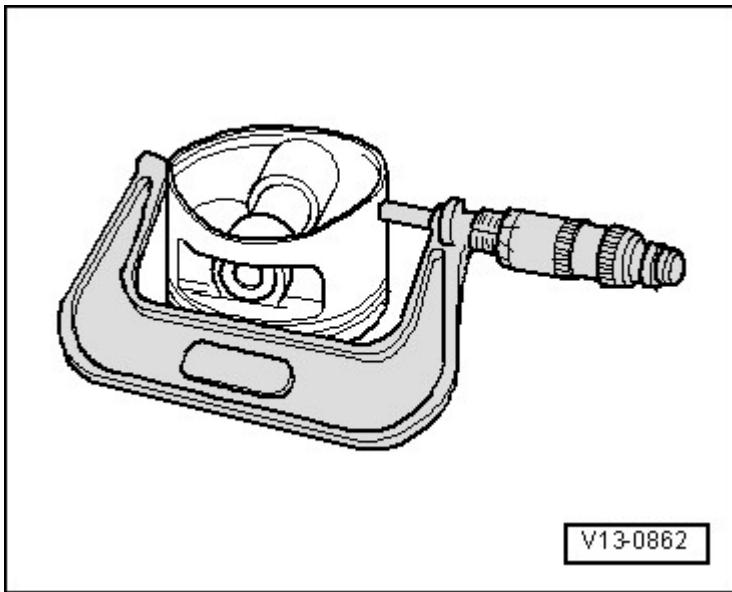

Fig. 15: Checking Piston
- Checking, refer to **Fig. 15**